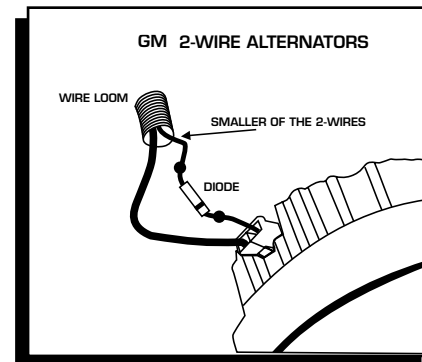

Figure 4 Installing the Diode to a 1973-1983 GM Vehicle.
**GM:** Delcotron Alternators use an internal voltage regulator. Install the Diode in-line on the smallest wire exiting the alternator (Figure 4). It is usually a Brown wire.